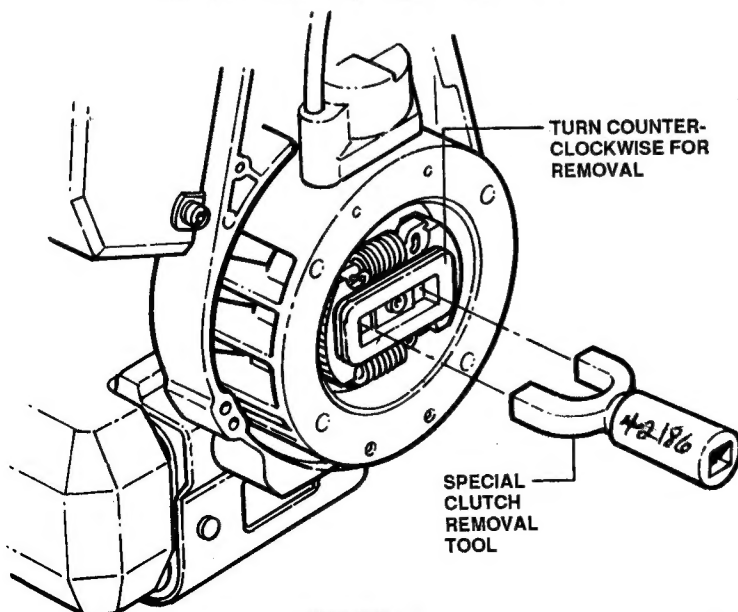

FIGURE 6
7. Clutch removal is made easy with special tool, part number 42186. First, remove the spark plug and insert a knotted piece of rope into the cylinder to act as a piston stop. Remove clutch in a counter-clockwise direction. Any portion of the clutch may be serviced separately by removing the two clutch springs. See Figure 6.